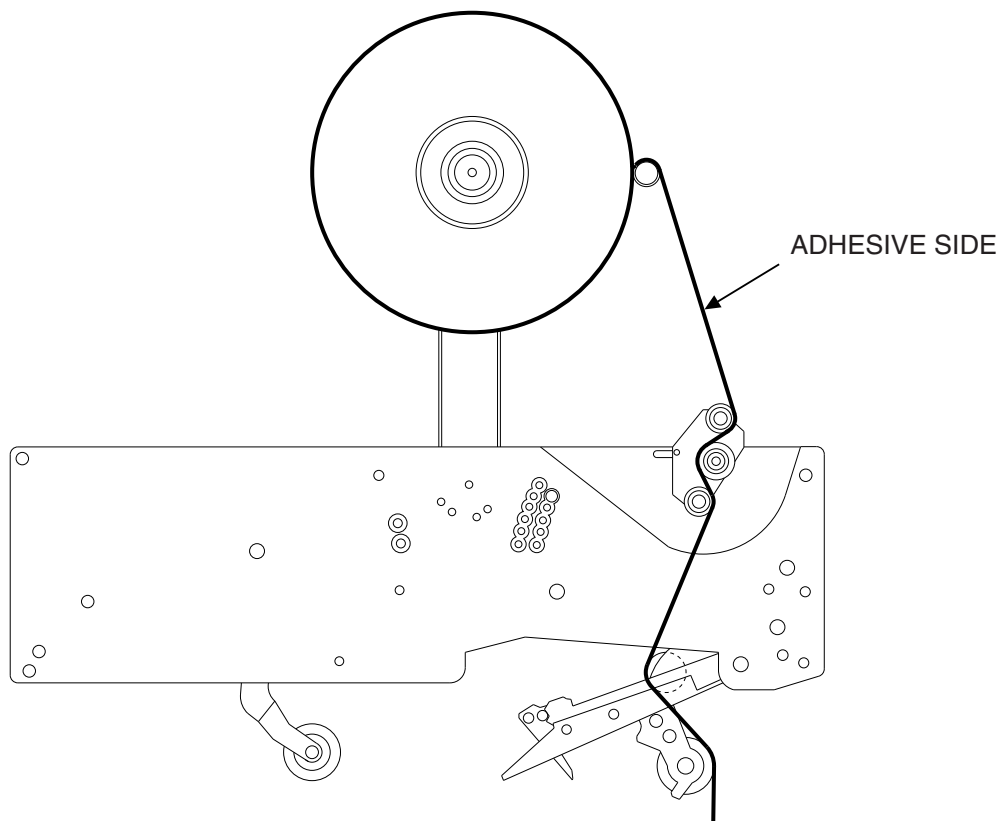

Figure 6 Tape Threading
4.3 Tape Threading – figure 6
Figure 6 shows how the tape must be threaded. You can also refer to the diagram on the Tape Head plate for threading instructions. The blade guard must be removed prior to operate the equipment. Use a knife to cut tape leg.